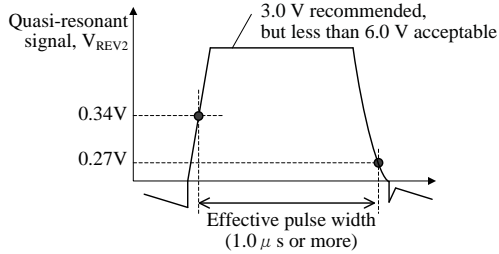

Figure 9-12 The effective pulse width of quasi-resonant signal
- The effective pulse width of quasi-resonant signal is 1.0 μ s or more (refer to Figure 9-12)
power supply specification, $V_{REV2} < 6.0\text{ V}$ (Absolute maximum rating of the BD pin) and the effective pulse width of quasi-resonant signal is $1.0\ \mu\text{s}$ or more (refer to Figure 9-12).